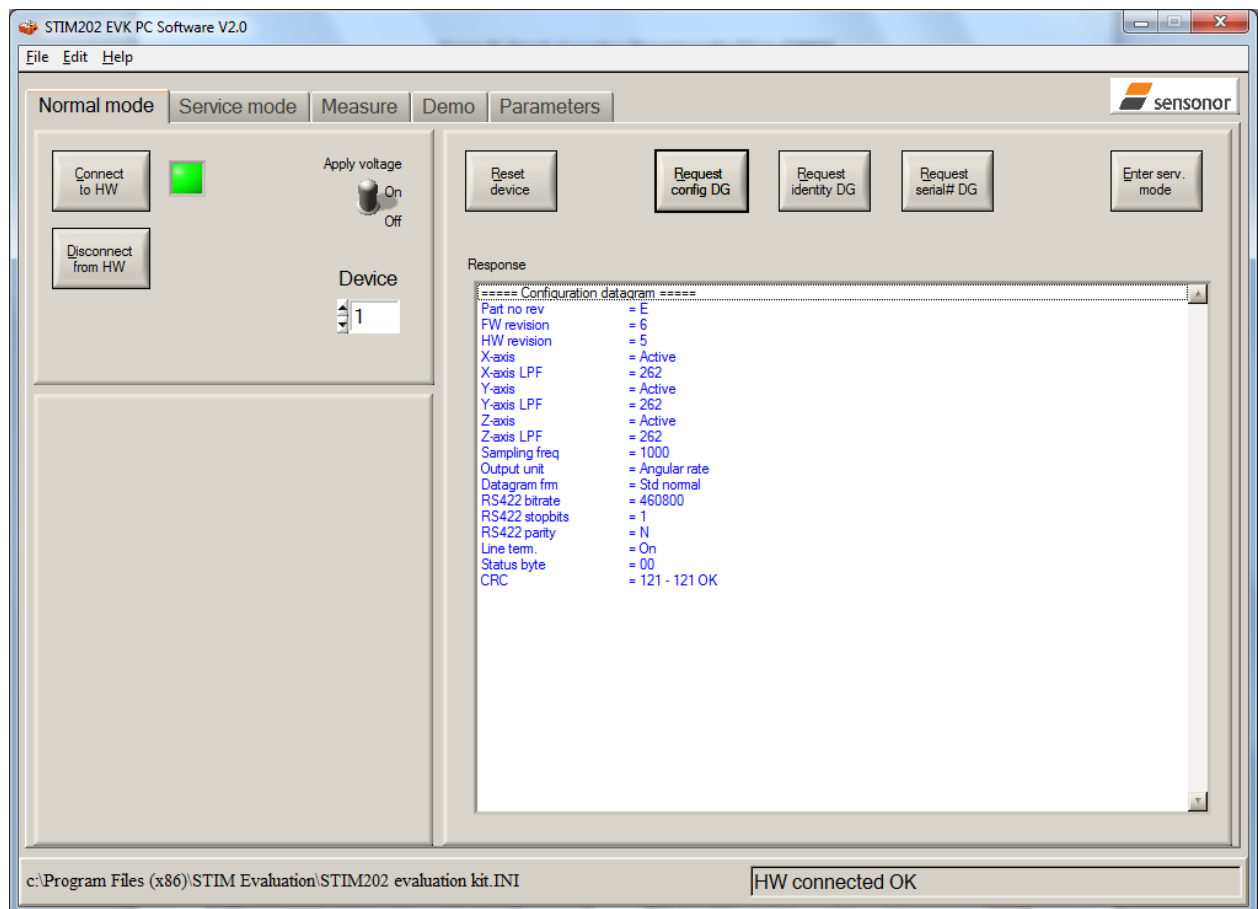

Figure 25: Result of sending 'Request config DG' to STIM202
- The kit is now ready for use, and the connection and the module communication could be checked by e.g. pressing the 'Request config DG' button. An example of such result is shown below (in blue text in Figure 25)